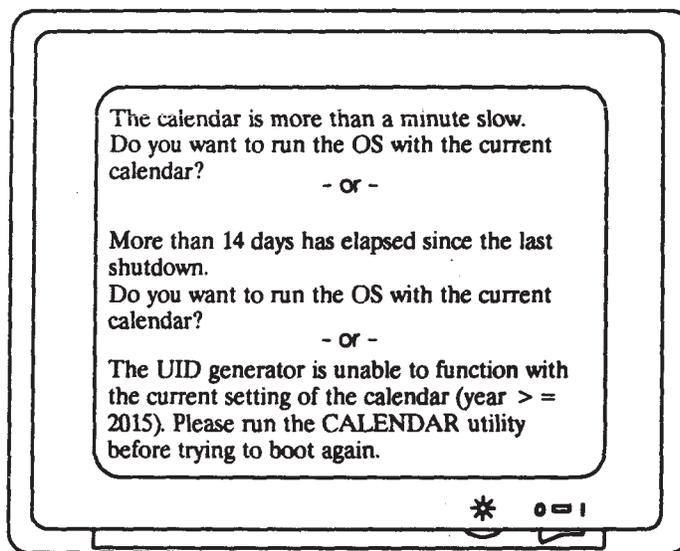

Figure 4-26. Calendar Battery Message
1. Turn on the system unit and the monitor. If the calendar backup battery is not working (incorrectly seated, or dead), you see an incorrect date printed in one of the messages shown in Figure 4-26.